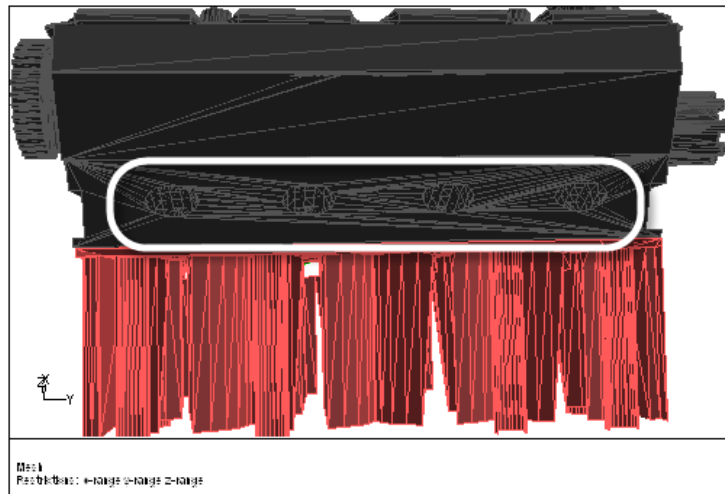

Figure 7.5: Coplanar Holes in the f_v8-top-right Zone
- f_v8-top-right (see Figure 7.5)
- (e) Click **Display** and pan to the region shown in Figure 7.5.